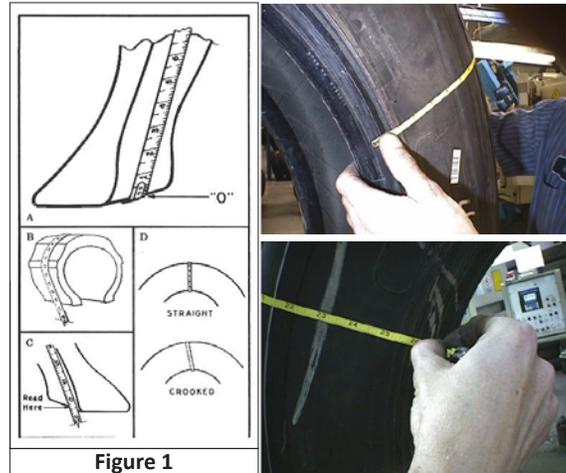

Figure 1
- Measure straight up at 90° to the bead over the crown and down the other side to a position on the other bead directly opposite the starting point (see Figure 1).